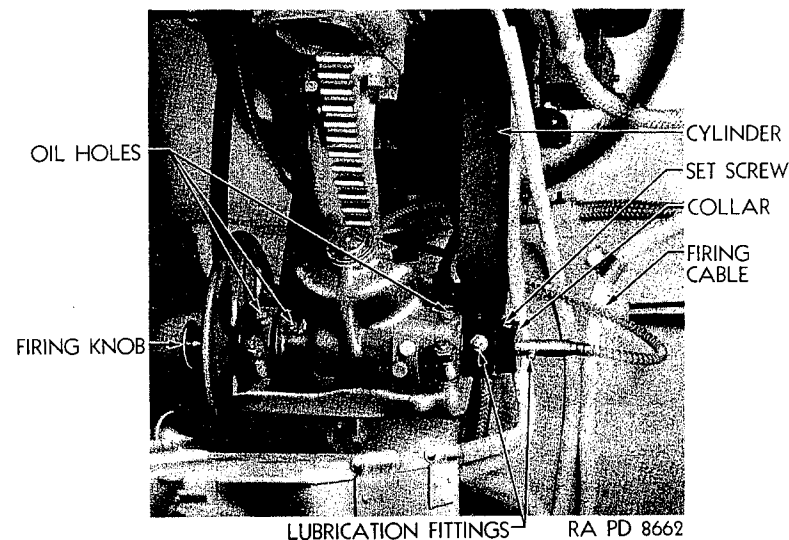

Figure 77—Elevating Gear and Lower Cylinder Bracket
(3) Disconnect and remove the firing pin cable, Figure 77.
(4) Loosen the set screw and remove the collar and the cylinder pivot pin, Figure 77.
(5) While holding the gun in position to keep piston and cylinder assembly free of bind, work the piston rod end, the cylinder end off of their respective pivot pins simultaneously.
(6) Replacement of piston and cylinder assembly is the reverse of the removal except that the system must be recharged